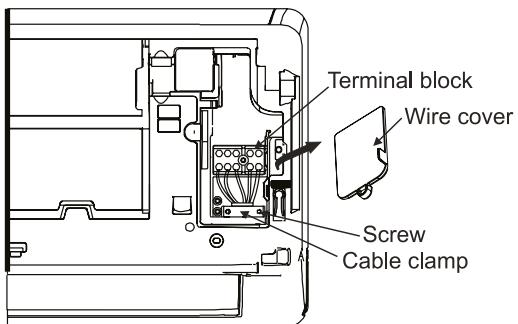

Figure 19
- To mount the cable to the interior unit: Open the front panel and the cover plate of the terminal strip on the right hand side of the interior unit. Figure 19.